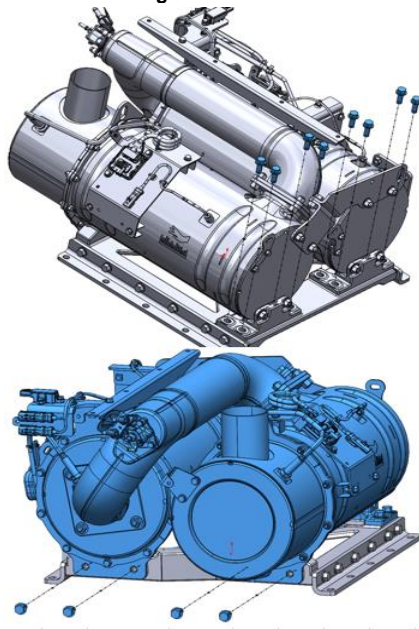

Figure 9
9. Uninstall the ATD unit (21) from the pre-installed bracket by removing the M12X30 and M12X70 bolts as shown in the figure 9.